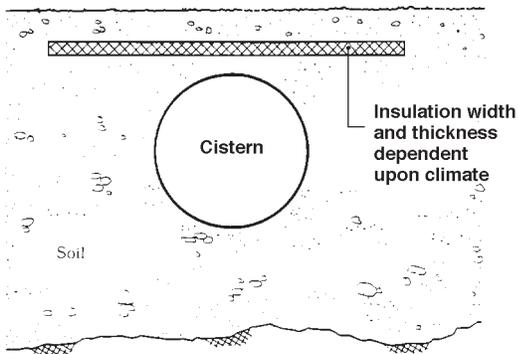

Figure 313
**313** If the cistern is excavated down to a frost free depth, frost problems are avoided. However, this in itself leads to several other problems, such as difficulties in cleaning, and may not be practical. A better solution would be to insulate the ground above the cistern as shown in figure 313. The necessary depth of soil cover will depend on the thickness and the extent of the insulation.